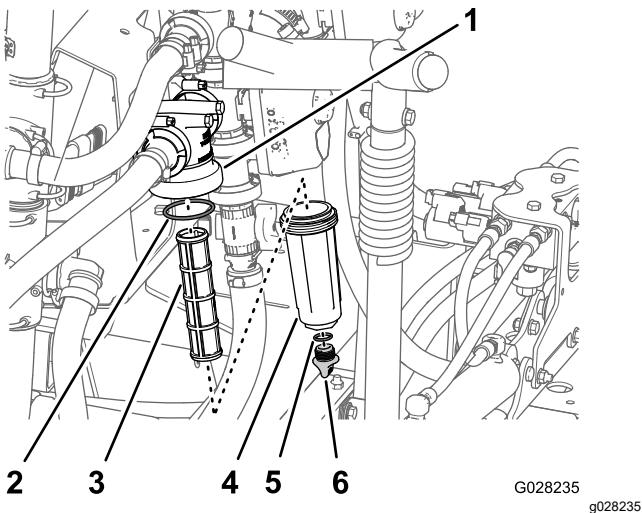

Figure 109
2. Align a drain pan under the pressure filter (Figure 109).
3. Rotate the drain plug counterclockwise and remove it from the bowl of the pressure filter (Figure 109).
4. Rotate the bowl counterclockwise and remove it from its filter head (Figure 109).
5. Remove the old pressure-filter element (Figure 109).
6. Check the O-ring for the drain plug (located inside the bowl) and the O-ring for the bowl (located inside the filter head) for damage and wear (Figure 109).
7. Install the new pressure-filter element into the filter head (Figure 109).
8. Install the bowl onto the filter head and tighten by hand (Figure 109).
9. Install the plug into the bowl and tighten by hand (Figure 109).